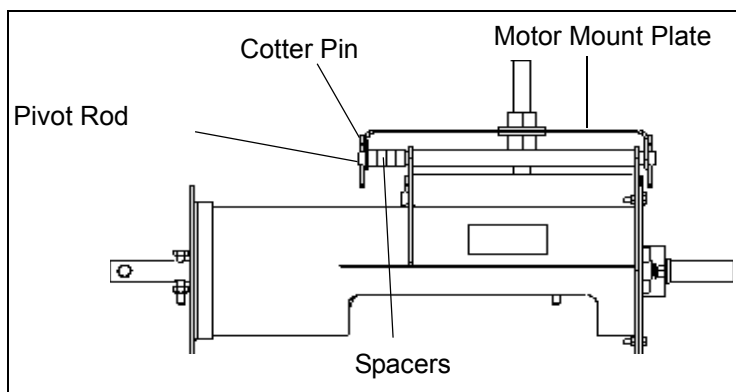

Figure 4P
4. When the pivot rod begins to extend through the pivot tube install the spacers, BETWEEN the Back Plate and the inner face of the Motor Mount Plate (See Figure 4P).